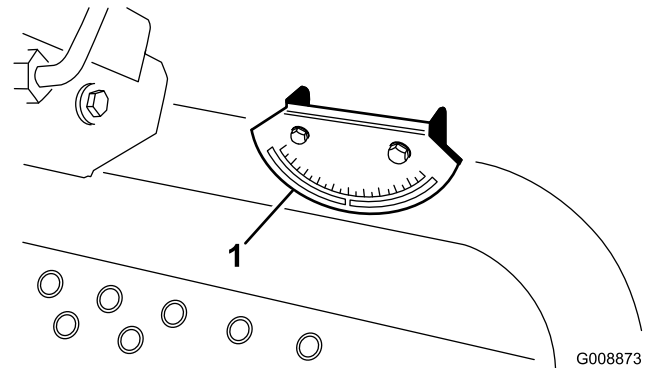

Figure 5
2. Verify that the machine is level by placing a hand held inclinometer (supplied with the machine) on the frame cross rail, by the fuel tank (Figure 5). The